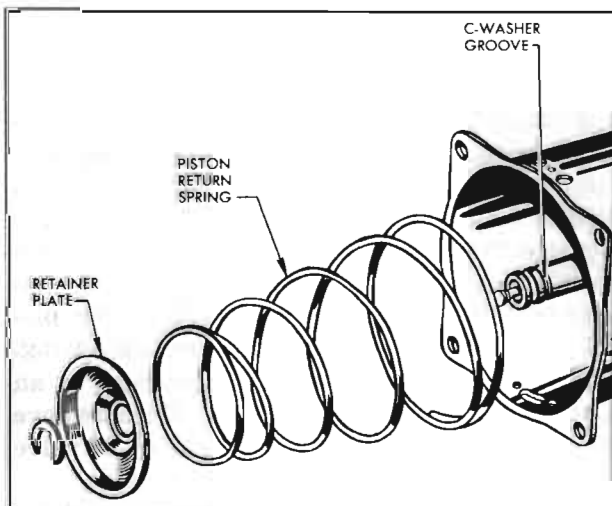

Figure 9-35—Removing Piston Return Spring
washer. While holding spring compressed, slide C-washer out of groove in hydraulic plunger. Remove retainer plate and vacuum piston return spring. See figure 9-35.
9. Place large diameter end of piston return spring in vacuum cylinder and install retainer plate over end of hydraulic plunger. Compress return spring and install "C" washer in inner groove of hydraulic plunger. See figure 9-35. Install new O-ring in outer groove of hydraulic plunger.